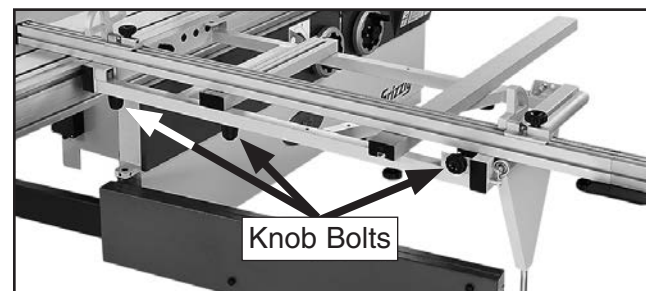

Figure 99. Locations of knob bolts securing crosscut fence.
2. Unthread and remove knob bolts shown in **Figure 99**.